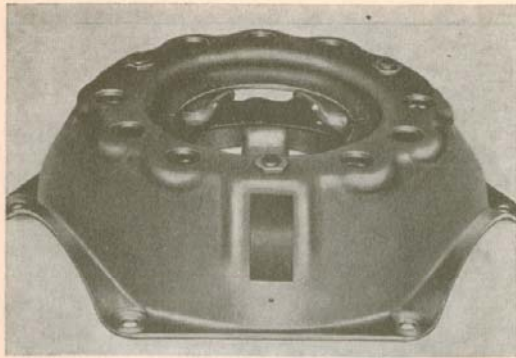
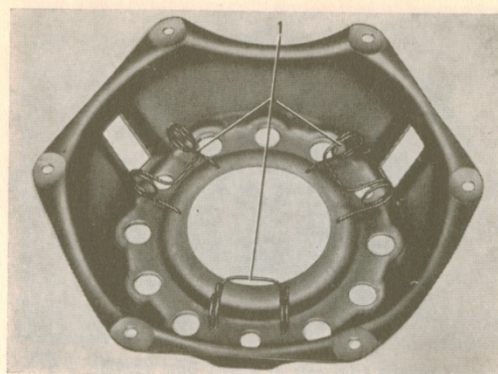

Fig. 2-5. Marking of clutch cover and pressure plate
Fig. 2-10. Fitting the springs
1. Mark the clutch as shown in Fig. 2-5.
4. Place the six pressure springs (24) in position. (The springs should be arranged so that black ones and unpainted ones come alternately on early prod. clutches. Late prod. clutches have only unpainted springs.)
5. Ensure that the three springs (1, Fig. 2-10) for the clutch levers are in position and place the clutch cover casing (21) over the six pressure springs in the position previously marked, Fig. 2-5.
6. Place on the 3-point support, arms, thrust rods and wrench. Press down the clutch cover casing until it contacts the bottom plate all round. Place the adjusting nuts on the eyebolts (32) and screw them on to full nut width. The clutch is now ready for adjusting.